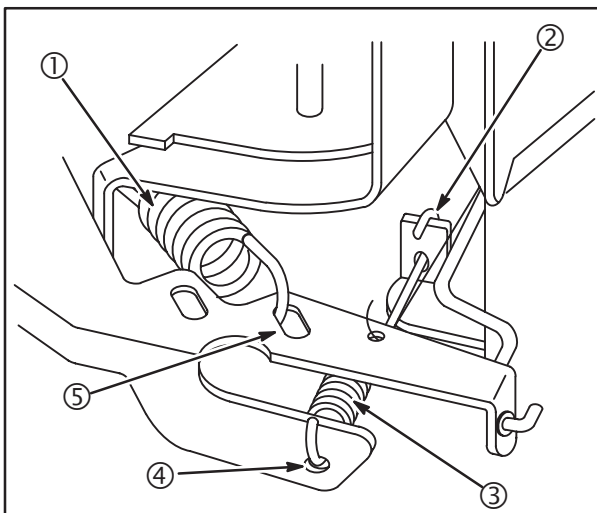

**Fig. 37**
**NOTE:** Be sure the governor spring is installed in #1 hole in governor lever (9), Fig. 37.
- Turn fixed speed adjustable control nut (6) clockwise (8) to increase or counter-clockwise (7) to decrease engine speed until desired Top No-Load RPM is obtained, **Fig. 37**.